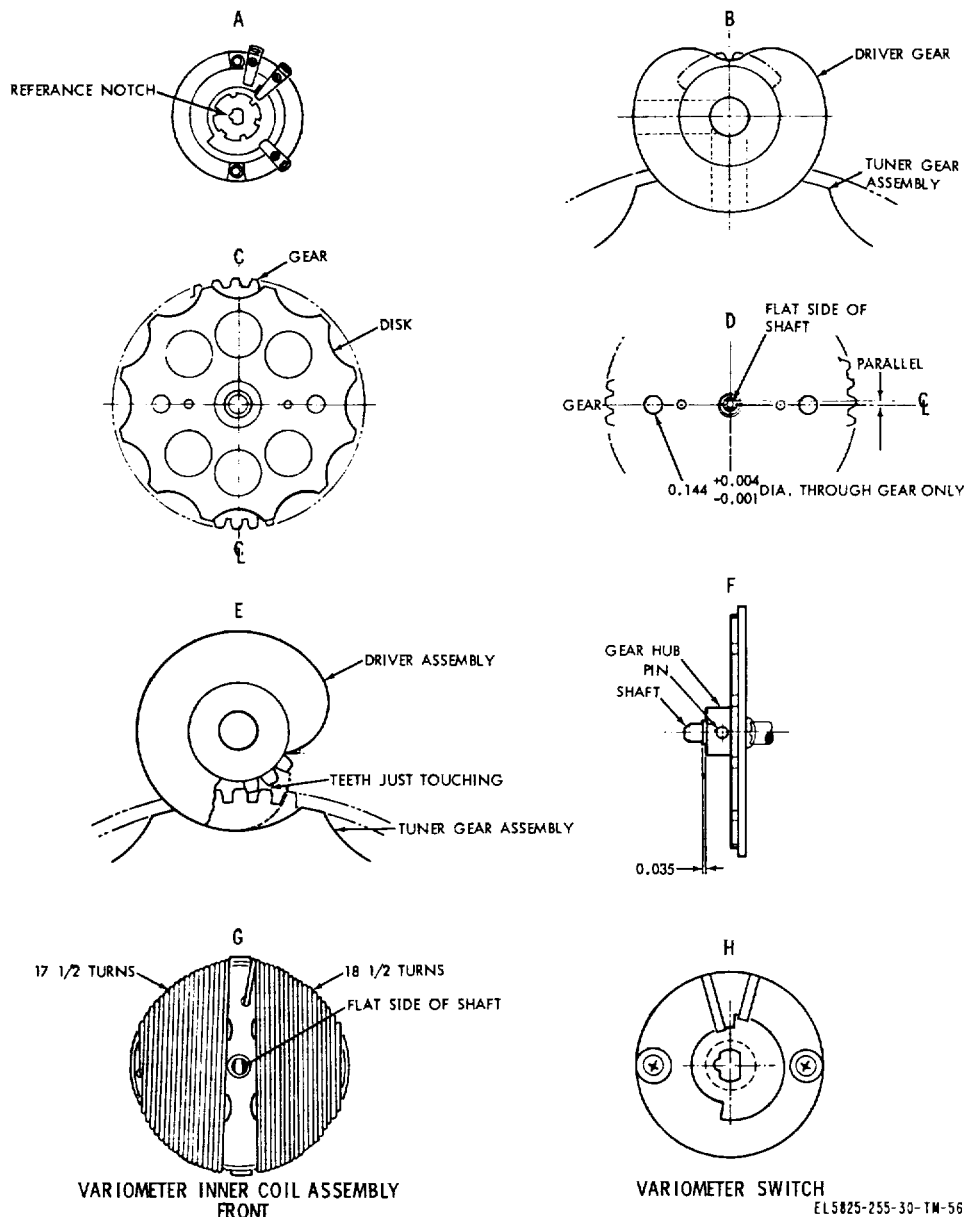

Figure 3-22. Motor Drive Assembly, Alignment
(1) Install disk 1A3A4A2MP1 (sheet 5). Center scallop of disk on center line of gear tooth as shown in C, figure 3-22. Disk must be concentric with outside diameter of gear. Open pilot hole in disk to 0.0937 +0.000 -0.0005 inch diameter and install two roll pins 1A3A4A2MP3.
(2) Mark center of threaded holes in disk onto gear. Remove roll pins and disk and drill two 0.143 to 0.148 inch diameter holes through gear.
(3) Position gear 1A3A4A2MP2 on shaft as shown in F, figure 3-22. Adjust shaft 1A3A4A2MP4 so that the flat sides are parallel with the centerline of the two holes for screws as shown in D, figure 3-22. With gear so positioned, open pilot hole in gear hub to 0.061 to 0.066 inch diameter hole through shaft and other side of gear hub. Install spring pin 1A3A4A2MP5 through gear and shaft. Remove set- screw from gear.
- (4) Reposition disk on gear and reinstall roll pins.
- (5) Apply sealing and locking compound grade A per MIL-S-22473 to threads of two screws 1A3A4A2MP2H1 and install screws through gear into disk. Make sure alignment of gear and disk is maintained.
- (6) Replace pulley 1A3A4MP2 over tuner gear shaft 1A3A4A2MP4.
- (7) Tag and disconnect wires to drive motor 1A3A4B1. Apply + 15 vdc to motor to position drive gear assembly 1A3A4A3 as shown in B, figure 3-22.
- (8) Align tuner gear so that flat sides of shaft are
- (9) Adjust front section of logic switch 1A3A4S1 according to A, figure 3-22. Adjust two other sections of switch so that flat sides of drive hole and reference notch in drive hole of each section match position of front section.
- (10) Replace drive belt over two pulleys 1A3A4MP2 and 1A3A4MP1.
- (11) Carefully insert tuner gear shaft 1A3A4A2MP4 through frame support No. 2 and logic switch.
- (12) Replace three screws 1A3A4MP5H1 and
(1) Replace rotor 1A3A4S2MP1 (sheet 5) on high voltage shaft 1A3A4MP3.
(2) Reposition high voltage switch 1A3A4S2 and secure with four screws 1A3A4S2H1, flatwashers 1A3A4S2H2, spacers (two 1A3A4MP19, one 1A3A4MP18, and one 1A3A4MP17), and one rear support 1A3A4MP8.
(3) Replace spacers 1A3A4MP22 as noted during disassembly and secure with retaining ring 1A3A4MP25. Add or remove spacers to provide 0.002 to 0.005 inch shaft linear play.
(4) Adjust idler arm 1A3A4MP21 to tighten drive belt 1A3A4MP13.
(5) Tag and disconnect two wires from motor. Apply +15 vdc to motor to position tuner gear assembly shaft and logic switch as shown in E, figure 3-22.
(6) Adjust high voltage rotor 1A3A4S2MP1 until rotor is in position 1 and connects firmly with contact. Tighten setscrews. Verify that high voltage shaft flat sides are parallel with shaft vertical centerline. If toes not align properly, adjust belt to align shaft.
(8) With high voltage shaft 1A3A4MP3 and high voltage rotor 1A3A4S2MP1 in position as required in (6) above, slip belt from pulley 1A3A4MP1, and open p-hole in rotor through shaft to 0.062 +0.004 1 inch. Secure rotor to shaft with spring pin. (8) Replace motor drive assembly (s below).
(1) Carefully position motor drive assembly 1A-3A4 (sheet 2). Make sure coupler 1A3MP3 is properly engaged.
(2) Secure motor drive assembly 1A3A4 with four nuts 1A3A4H1 and lockwashers 1A3A4H2. Do not tighten nuts more than 30 inch-pounds.
(3) Tag and unsolder wires connected to terminals of drive motor 1A3A4B1 (sheet 5).
(4) Use a + 15 vdc variable power supply to turn driver assembly cw until logic switch 1A3A4S1 is as shown in A, figure 3-22, the high voltage switch rotor 1A3A4MP1 is in position 1, and the teeth of driver assembly and tuner gear assembly just touch as shown in E, figure 3-22.
(5) Adjust coupling between drive gear of motor drive assembly 1A3A4 and variometer 1A3A2 (sheet 2) so that switch on variometer is as shown in H, figure 3-22.
(6) Apply sealing and locking compound grade HV per MIL-S-22473 to setscrew threads of coupling and tighten setscrews.
(7) Reconnect and solder tagged wires to terminals of drive motor.
(8) Reconnect and solder 13 wires to high voltage switch 1A3A4S1 (sheet 5).
(9) Replace switched filter 1A3A3 (v below).
(1) Ensure front bushing 1A3A2MP5 (sheet 4) and rear bushing 1A3A2MP6 are in place in front plate assembly 1A3A2MP3 and rear plate assembly 1A3A2-MP4, respectively.
(2) Carefully insert new inner coil 1A3A2MP2. Secure inner coil with washer 1A3A2MP7 and retaining clip 1A3A2MP8.